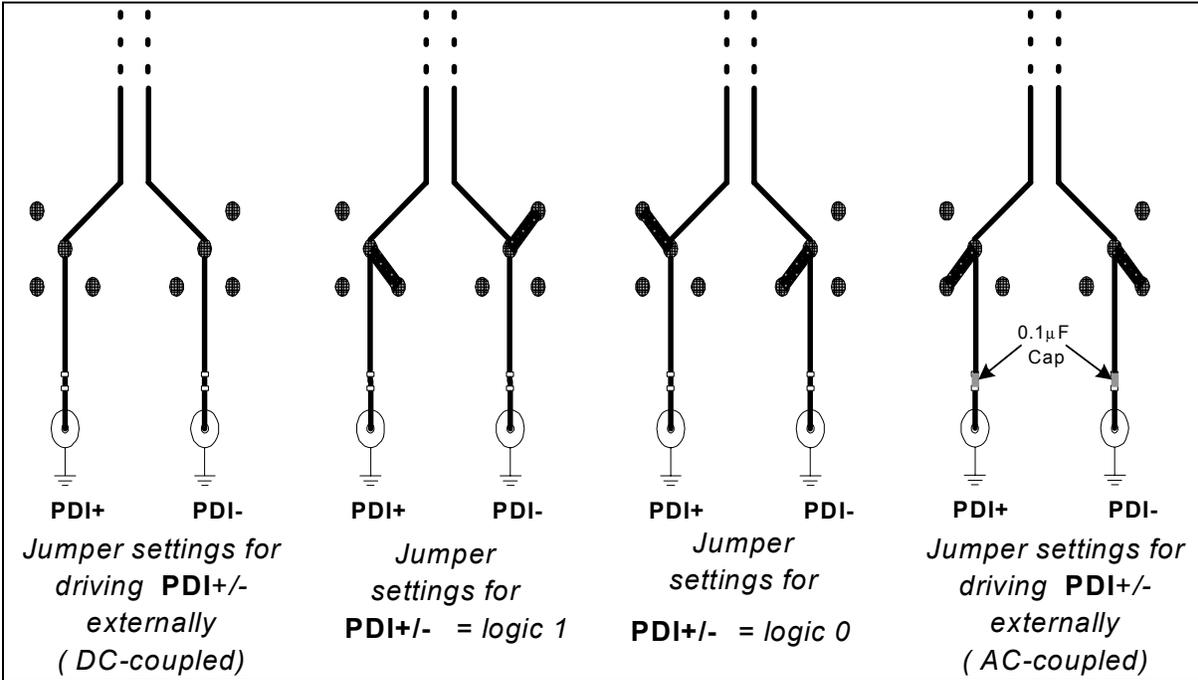

Figure 2. PDI± Jumper Settings
The MAX3952 EV kit simplifies evaluation of the MAX3952. The EV kit operates from a +3.3V single supply and includes all the external components necessary to interface with LVDS, CML, and LVPECL inputs/outputs of the MAX3952. The LVPECL inputs (REFCLK \pm) are externally terminated with 100 Ω resistors. The LVDS inputs (PDI \pm , PCLKI \pm) are internally terminated with 100 Ω differential input resistance and therefore do not require external termination. Ensure that LVDS devices driving these inputs are not redundantly terminated. The CML outputs (SDO \pm , SCLKO \pm) are optimized to drive a 50 Ω load. PCLKO \pm , SDO \pm , SCLKO \pm , and REFCLK \pm are AC-coupled with 0.1 μ F capacitors. The LVDS data and clock inputs are DC-coupled, but the lines can be cut and pads are available to allow the placement of AC-coupling capacitors. (See Figure 2)
- 3) Cut the removable traces for all of the PDI \pm and PCLKI \pm inputs and install 0.1 μ F capacitors. (See Figure 2)
- 5) For all PDI \pm inputs, place a shunt in the 2.0k Ω to CMV position. (See Figure 2)